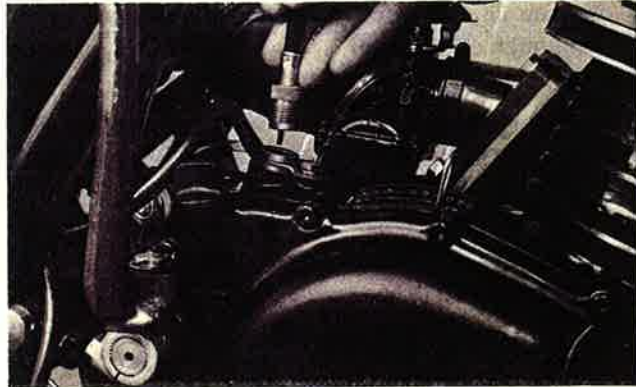

Fig. 3-1-12
7. Remove tachometer cable. (Fig. 3-1-12)